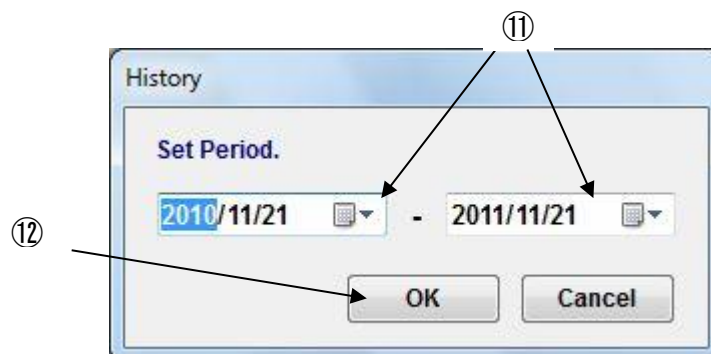

Fig.10-5 Period Setting Dialog
(10) Select [Period] and "Period Setting Dialog"(Fig.10-5) is displayed.
(11) Input period or select from calendar by [▼] to change period.
(12) Select [OK].
(13) All spare parts ordered in changed period is displayed again.